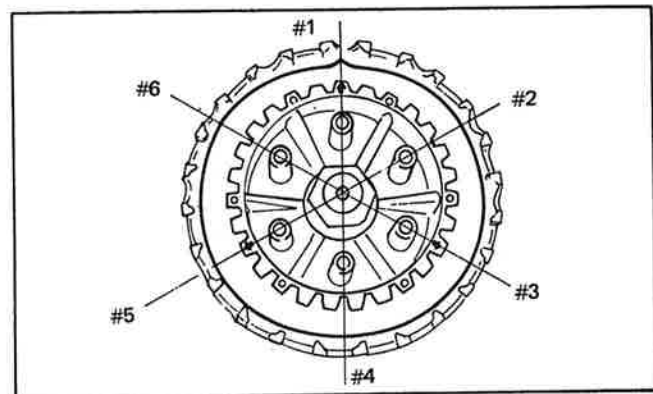

Fig. 3-4-13
3. In order to reduce noise caused by the clutch plates and clutch boss, each clutch plate is cut away at part of the edge #1. This permits the clutch plate to move outward due to centrifugal force. Align one of the plate cutaways so that it is centered as shown in #2 with the arrow on the hub. Install a friction plate. next install a clutch plate with cutaway off-set approximately 60° from previous plate. Continue this procedure in a clockwise direction until all clutch plates are installed. (Fig. 3-4-13)